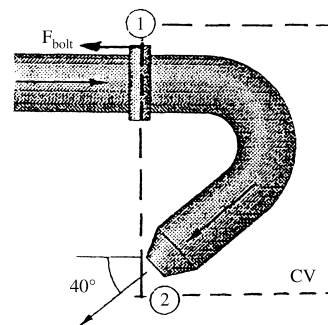

Fig. P3.60
**3.60** Water at 20°C flows through the elbow in Fig. P3.60 and exits to the atmosphere. The pipe diameter is  $D_1 = 10$  cm, while  $D_2 = 3$  cm. At a weight flow rate of 150 N/s, the pressure  $p_1 = 2.3$  atm (gage). Neglecting the weight of water and elbow, estimate the force on the flange bolts at section 1.